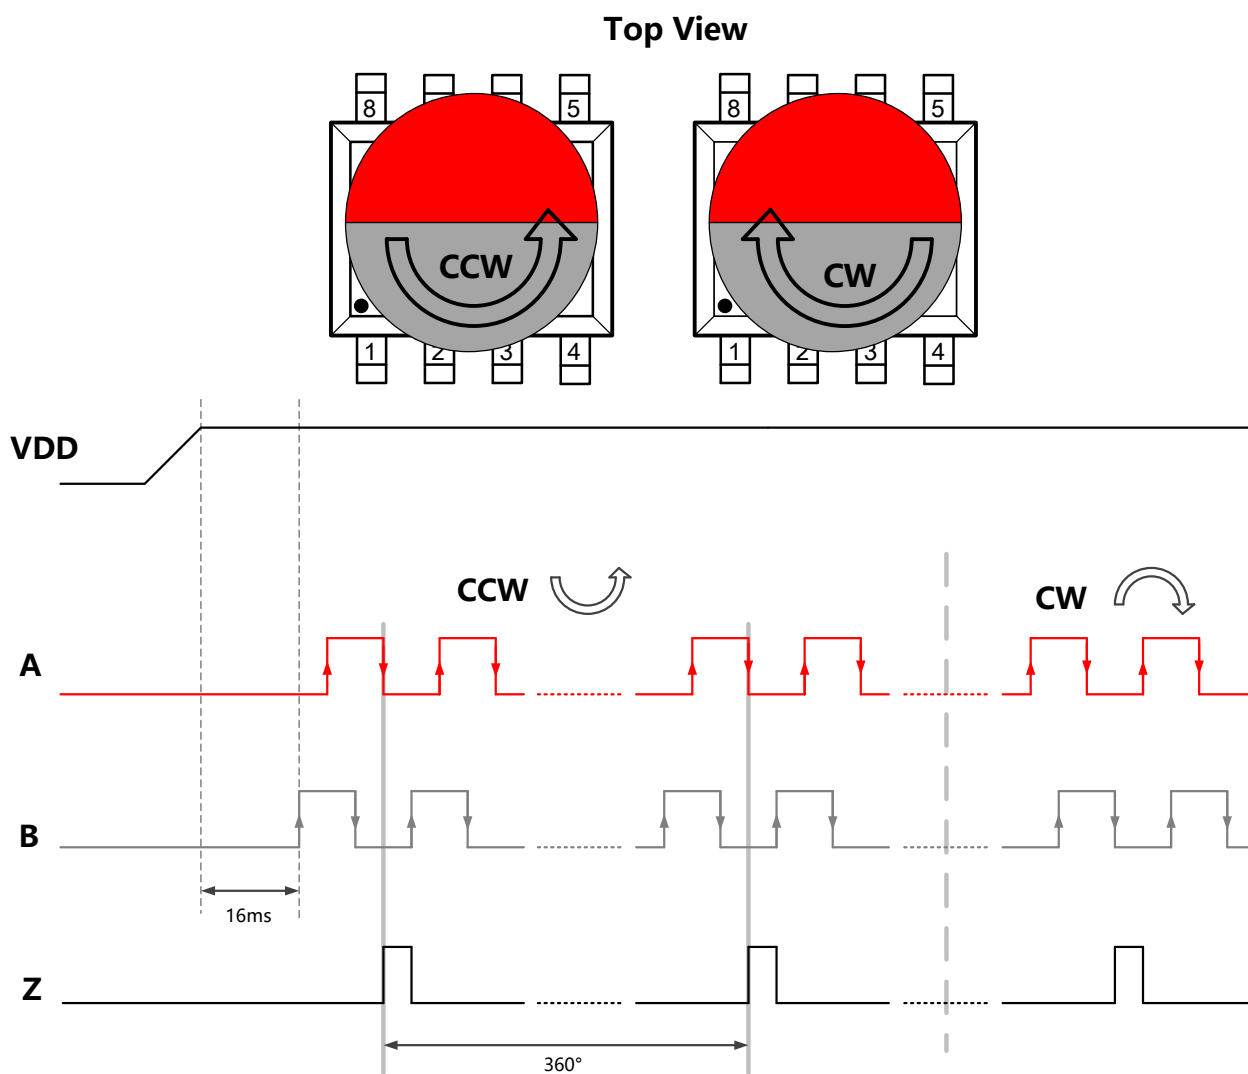

Figure 7(1): ABZ Output Power On without Absolute Position Indicate Pulses
As shown in Figure 7, when the magnet rotates counter-clock-wise (CCW), output B leads output A by 1/4 cycle, when the magnet rotates clock-wise (CW), output A leads output B by 1/4 cycle (or 1 LSB). Output Z indicates the zero position of the magnet. After chip power-on, the ABZ output is blocked for 16ms to guarantee proper output.